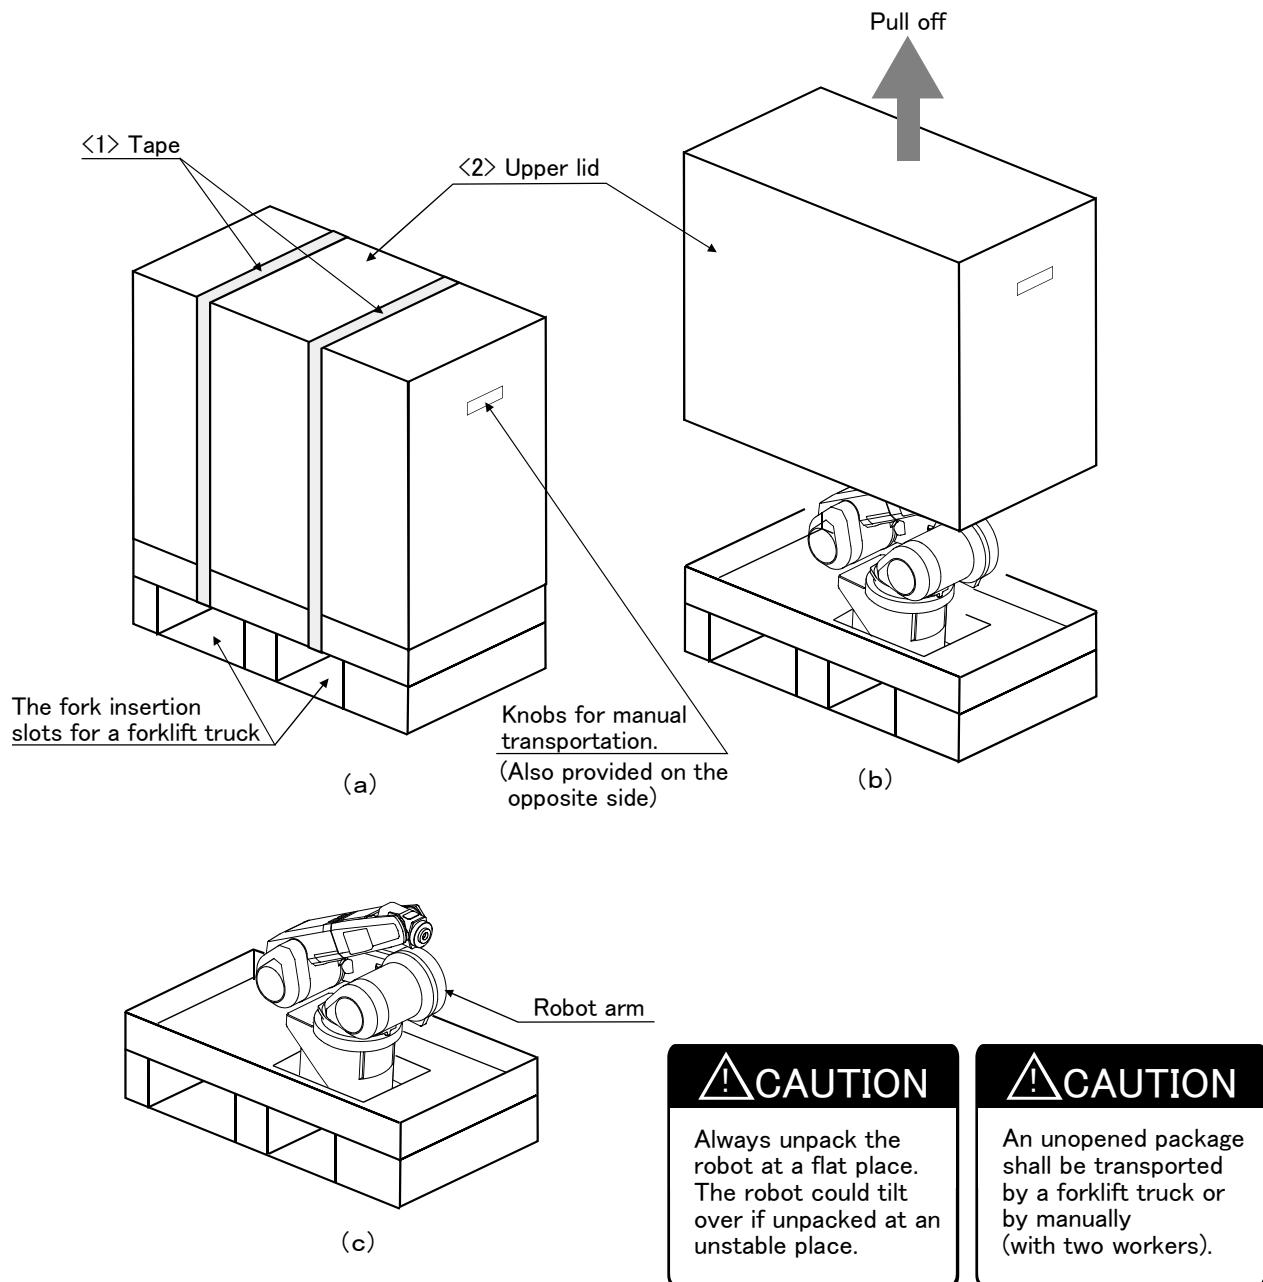

Fig.2-1 : Unpacking the robot arm
The robot is shipped from the factory in cardboard and plywood frame packing. Always refer to Fig. 2-1 and unpack the robot. Handle the robot arm according to “2.2.2 Transportation procedures \(Transporting with a crane\)”.
- 1) Using a knife, etc., slit the tape <1> fixing the upper lid <2> of the cardboard box. (Fig. 2-1 \(a\))
- 2) Pull the upper lid <2> of the cardboard box off with both hands. (Fig. 2-1 \(b\))
- 3) Remove the hexagon socket bolts <3> (four positions) connecting the sleeper and the base unit. (Fig. 2-1 \(c\))